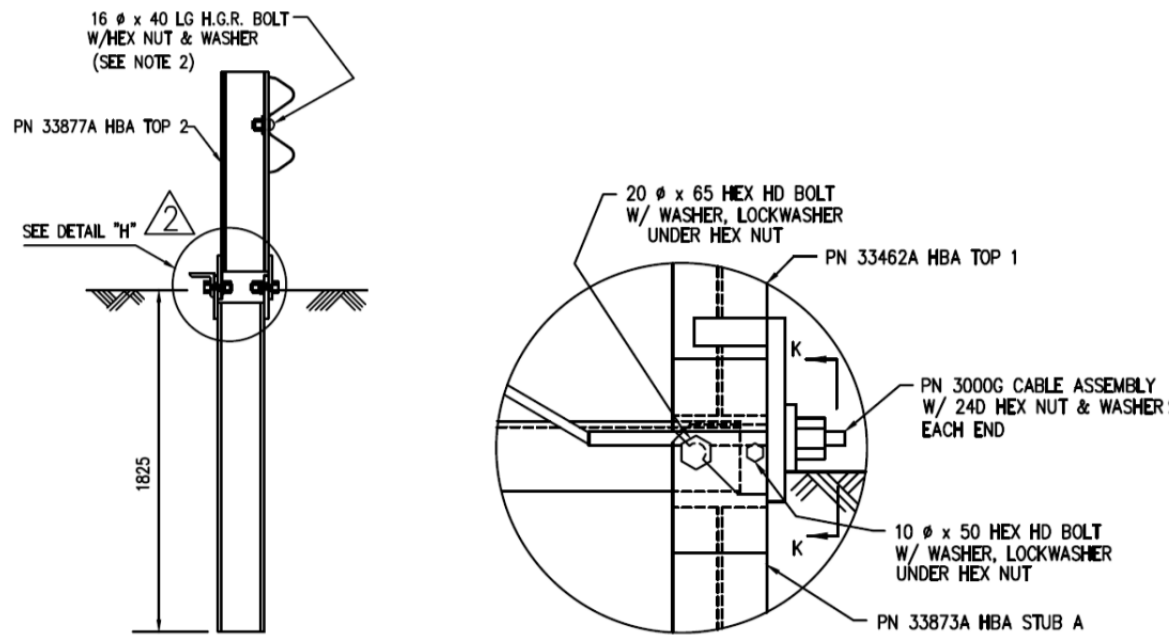
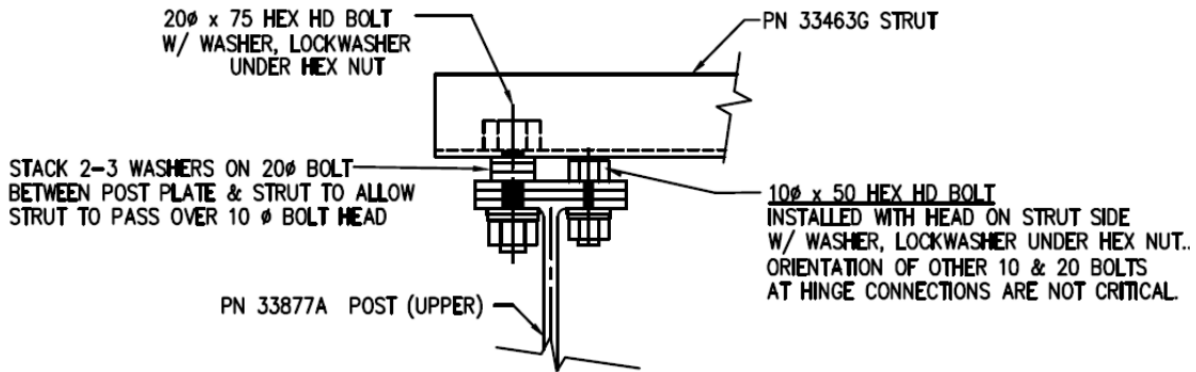

Figure 1
Figure 3
- Option (1)** Drive the HBA Bottom Posts (EU103/33873A) with an approved driving head to the appropriate depths, approximately 1825 mm. Ensure that the posts are positioned so that the larger holes in the ears are on the downstream side (See Figure 1).
- Option (2)** To facilitate assembly in extremely hard soil, drill a 300 mm pilot hole approximately 1825 mm deep and force the HBA Bottom Post (EU103/33873A) to the appropriate depth by impact or vibratory means with an approved driving head.
Once the HBA Bottom Posts (EU103/33873A) are emplaced, the Top HBA Posts can now be assembled. At Post No. 1, assemble the Top HBA Post 1 (EU 104/33462A) by aligning the holes of the ears on the Top and Bottom Posts. In the 11mm holes, fasten a 10mm diameter x 50mm hex head bolt (EU6321/6321G) with a 10mm washer (EU4254/4254G), and 10mm lock washer (EU4258/4258G) under the 10mm hex nut (EU6405/6405G) (See Figure 1). The bolts should be positioned so the nuts are on the inside of the ears (See Figure 3). In the 21mm holes, fasten a 20mm diameter x 65mm hex head bolt (EU3717/3717G) under the 20mm hex nut (EU3704/3704G). There is no torque requirement for these bolts. They should be tightened to a snug position. Do not over tighten these bolts.
At Post No. 2 assemble the Top HBA Post 2 (EU105/33877A) by aligning the holes of the ears on the Top and Bottom Posts. In the 11mm holes, fasten a 10mm diameter x 50mm hex head bolt (EU6321/6321G) with a 10mm washer (EU4254/4254G), and 10mm lock washer (EU4258/4258G) under the 10mm hex nut (EU6405/6405G). The bolts should be positioned so the nuts are on the inside of the ears (See Figure 3). In the 21mm holes, fasten a 20mm diameter x 65mm hex head high strength bolt (EU3717/3717G) with a 20mm washer (EU3701/3701G), 20mm lock washer (EU4699/4699G) under the 20mm hex nut (EU3704/3704G). There is no torque requirement for these bolts. They should be tightened to a snug position. Again, do not over tighten these bolts.
Place the Angle Strut (EU102/33463G) between HBA Bottom Posts (EU103/33873A) at the base of Posts 1 and 2. At Post No. 1, a 20mm x 65mm hex head bolt (EU3717/3717G) is used to attach the Angle Strut (EU102/33463G) to the post. At Post No. 2, a 20mm x 75mm hex head bolt (EU3718/3718G) is used to attach the Angle Strut (EU102/33463G) to the Post. The bolts should be inserted from the traffic side. At Post No. 1, a 20mm washer (EU3701/3701G) and 20mm lock washer (EU4699/4699G) are placed between the 20mm hex nut (EU3704/3704G) and the Angle Strut (EU102/33463G) (See Figure 1). At Post No. 2, three (3) 20mm washers (EU3701/3701G) and a 20mm lock washer (EU4699/4699G) are placed between the 20mm hex nut (EU3704/3704G) and the Angle Strut (EU102/33463G) (See Figure 3).
At Post location 2, fasten the 4000mm Anchor Guardrail (EU32/29G) to the Top HBA Post 2 (EU105/33877A) using a 16mm x 50mm Guardrail Post Bolt (EU3400/3400G), a Double Recess Hex Nut (EU3340/3340G), and a Round Washer (EU3300/3300G) (See Figure 1).